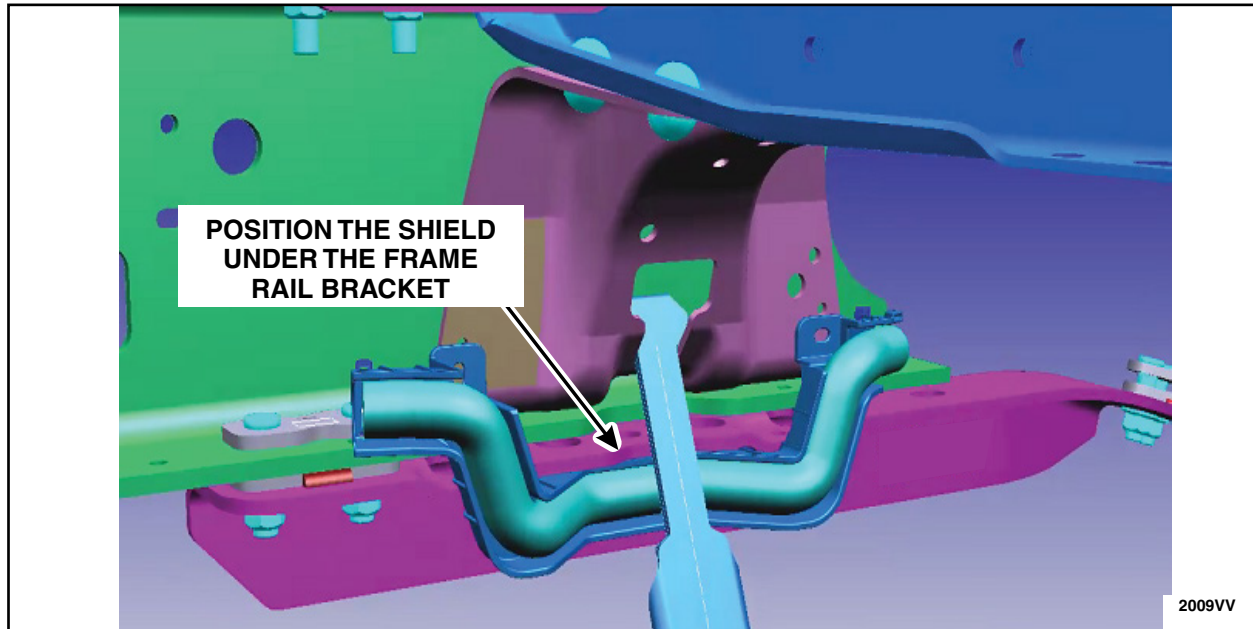

FIGURE 41
5. Reattach the shield to the harness, in the same locations as they were removed from in Step 3, using seven (7) of the similar supplied tie straps.
6. Once the frame rail bracket has been installed, position the middle of the harness shield under the frame rail bracket as shown in Figure 41. Then, using two (2) of the supplied tie straps, secure the harness shield in the same location as the push pins were removed from in Step 1.